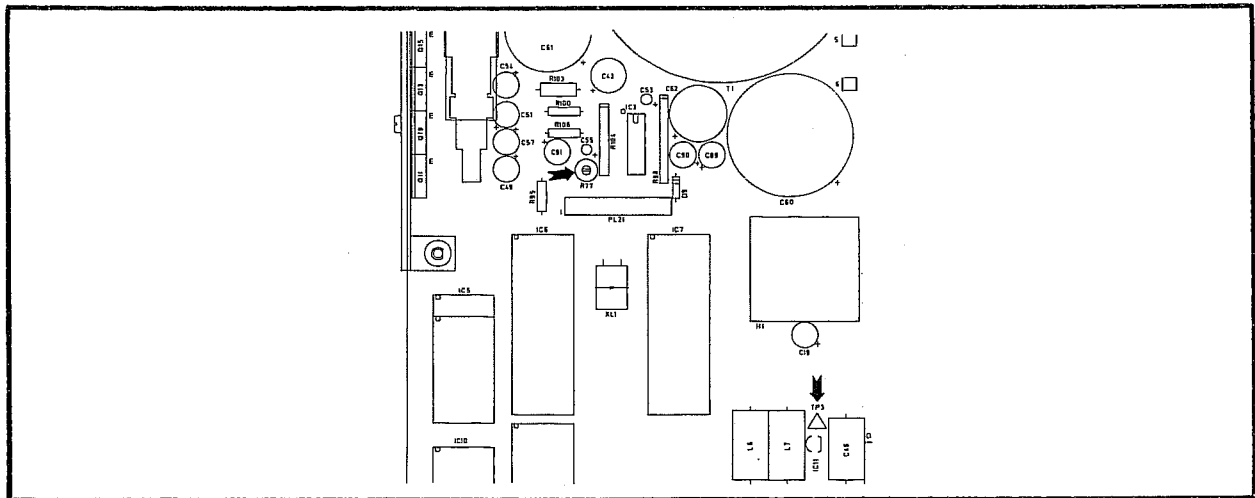

Fig. 7.3 Location of R77 and TP3
- 42 (1) Set R77 on the motherboard to mid position, see Fig. 7.3.
- (2) Use the digital multimeter and probe to monitor the voltage between TP3 (+ve) and ground. Adjust R77 for $+15\text{ V} \pm 0.1\text{ V}$.
- (3) Disconnect the digital multimeter.